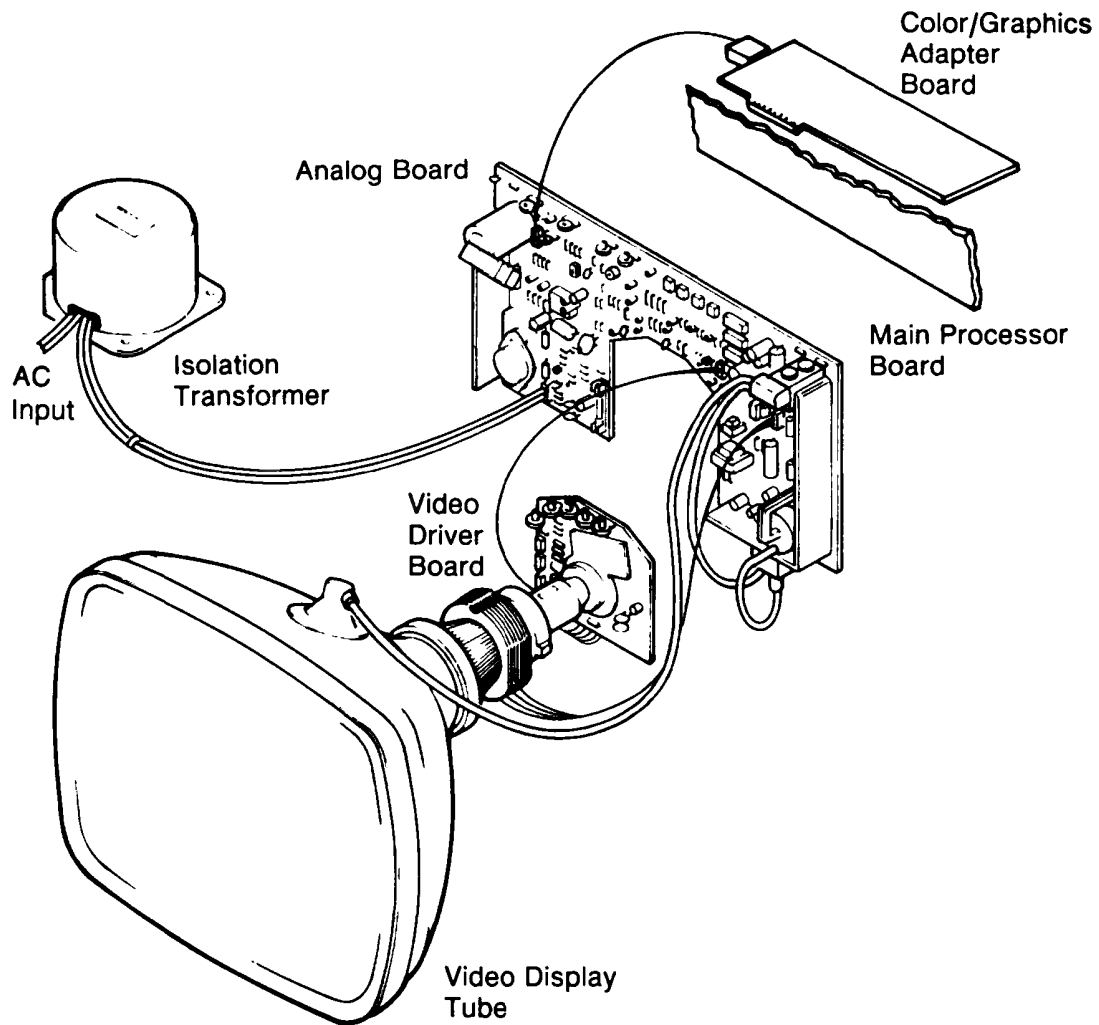

Figure 2-7 Color CRT and Boards
**Physical Description** — The color display for the NCR Personal Computer consists of a 12-inch CRT, a deflection, or analog board and a video driver board. A brightness control knob is mounted on the front of the computer; there are no other operator-adjustable controls. Input to the color display is through a cable from the color/graphics adapter board plugged into the main processor board. The analog board then converts these input signals into output signals to the color guns on the CRT. The analog board is located in front of the MPB, parallel to the face of the CRT. The video driver board is attached to the back of the CRT. Figure 2-7 shows the color display CRT and its associated components.